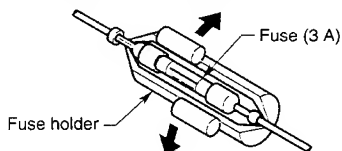

Figure 3
4. To replace the fuse, release the catch on the source unit side, remove the old fuse and insert the new one. (Figure 3)